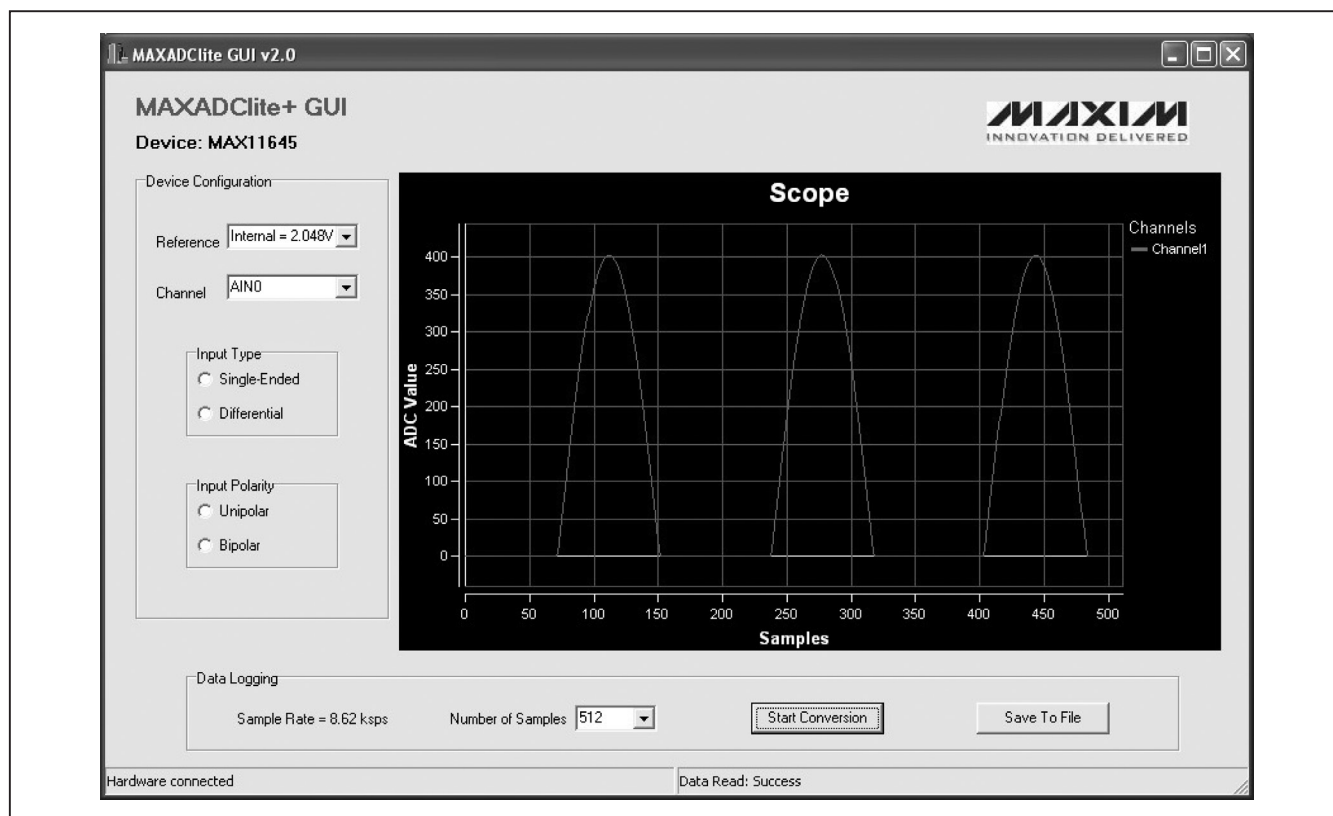

Figure 1. MAXADClite+ GUI Application
- 4) Once the status bar displays **Hardware connected**, select the **Device Configuration** options for internal or external reference, input channel, single-ended or differential measurement, and unipolar or bipolar measurement. Next, select the **Number of Samples** from the **Data Logging** group box drop-down list. Once all options are set, press the **Start Conversion** button to proceed (Figure 1).